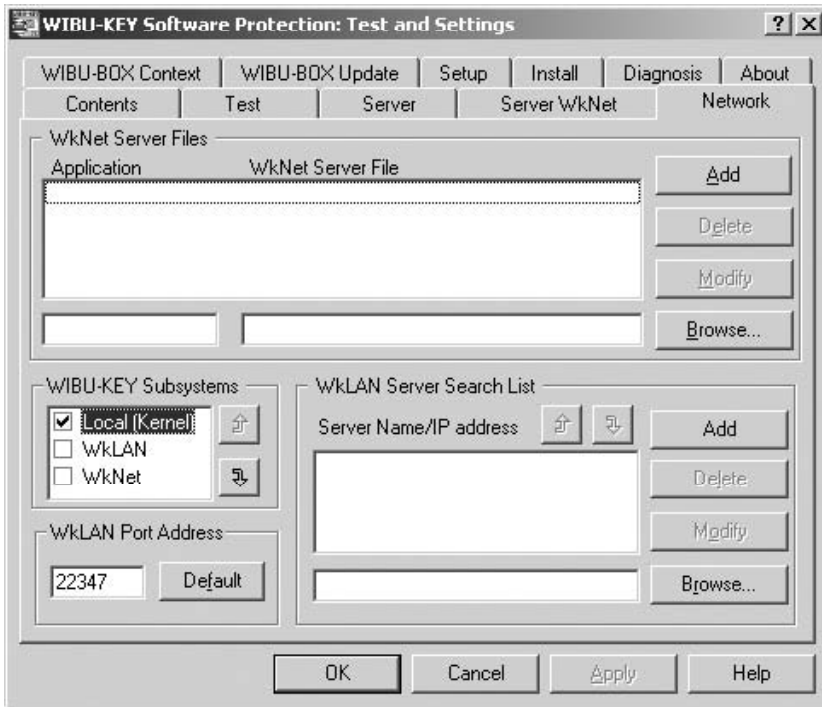

Figure 1-1: Set the Security Device to Only Local
4. Make sure in the WIBU-KEY Subsystems section that the Local (Kernel) is the only item checked. See Figure 1-1.